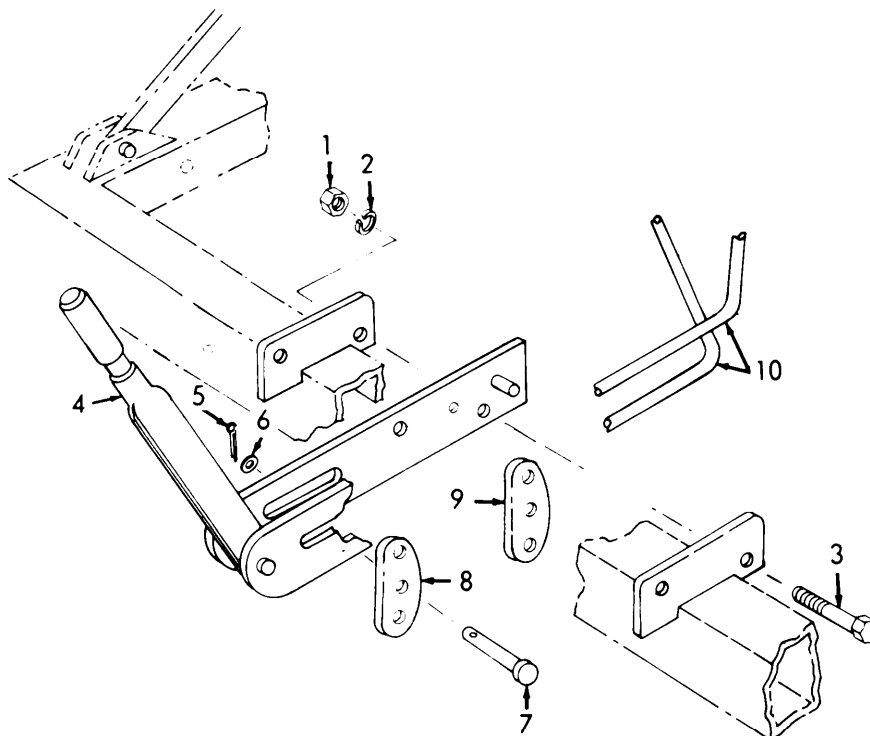

Figure 3-41. Parking Brake Handle, Removal.
- (1) Remove two nuts (1, Figure 3-41) two lockwashers (2), and two bolts (3).
- (2) Raise handle assembly (4) from mount.
- (3) Remove two cotter pins (5), two washers (6), and two pins (7).
- (4) Remove two clamps (8 and 9) with attached cables (10).